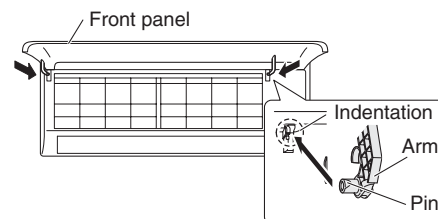

Fig. 1-160
- (1) While aligning the top edge of the grille with the frame, move the grille horizontally and insert the top and bottom into the frame.
- (2) Press the grille firmly with your hand to ensure no gap exists between the frame and grille.
- (3) Tighten the 6 screws. And fix the removed covers in place.
- (4) Grasp the sections near the front panel arms on both sides, and hold the front panel so that it is nearly horizontal. Push the arm shafts towards the outside so that they come into contact with the top of the indentations on the right and left sides of the air conditioner. Then push firmly until the arm shafts click into place. (Fig. 1-160)
- (5) Remount the lower flap.